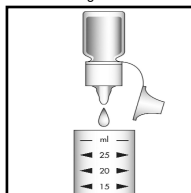

Figure 2
2. Add 2 drops of A-8500 Activator Solution (fig. 2). Cap the cup and shake it to mix the contents well.